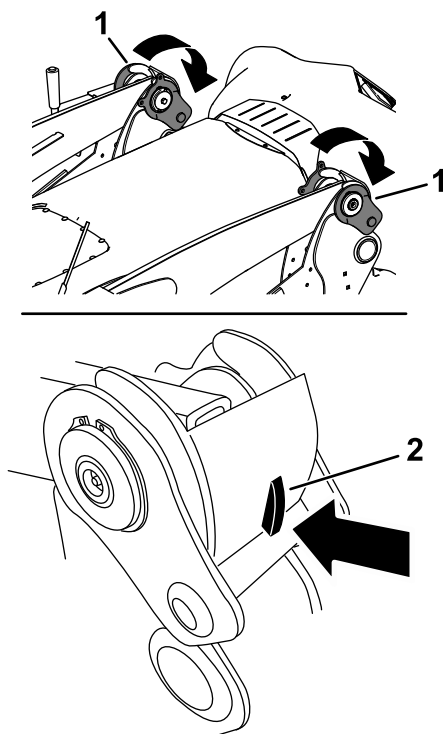

Figure 56
7. Lock the loader arms to the machine by lowering each loader-arm latch so that the latch lock holds the latches in place (Figure 56).